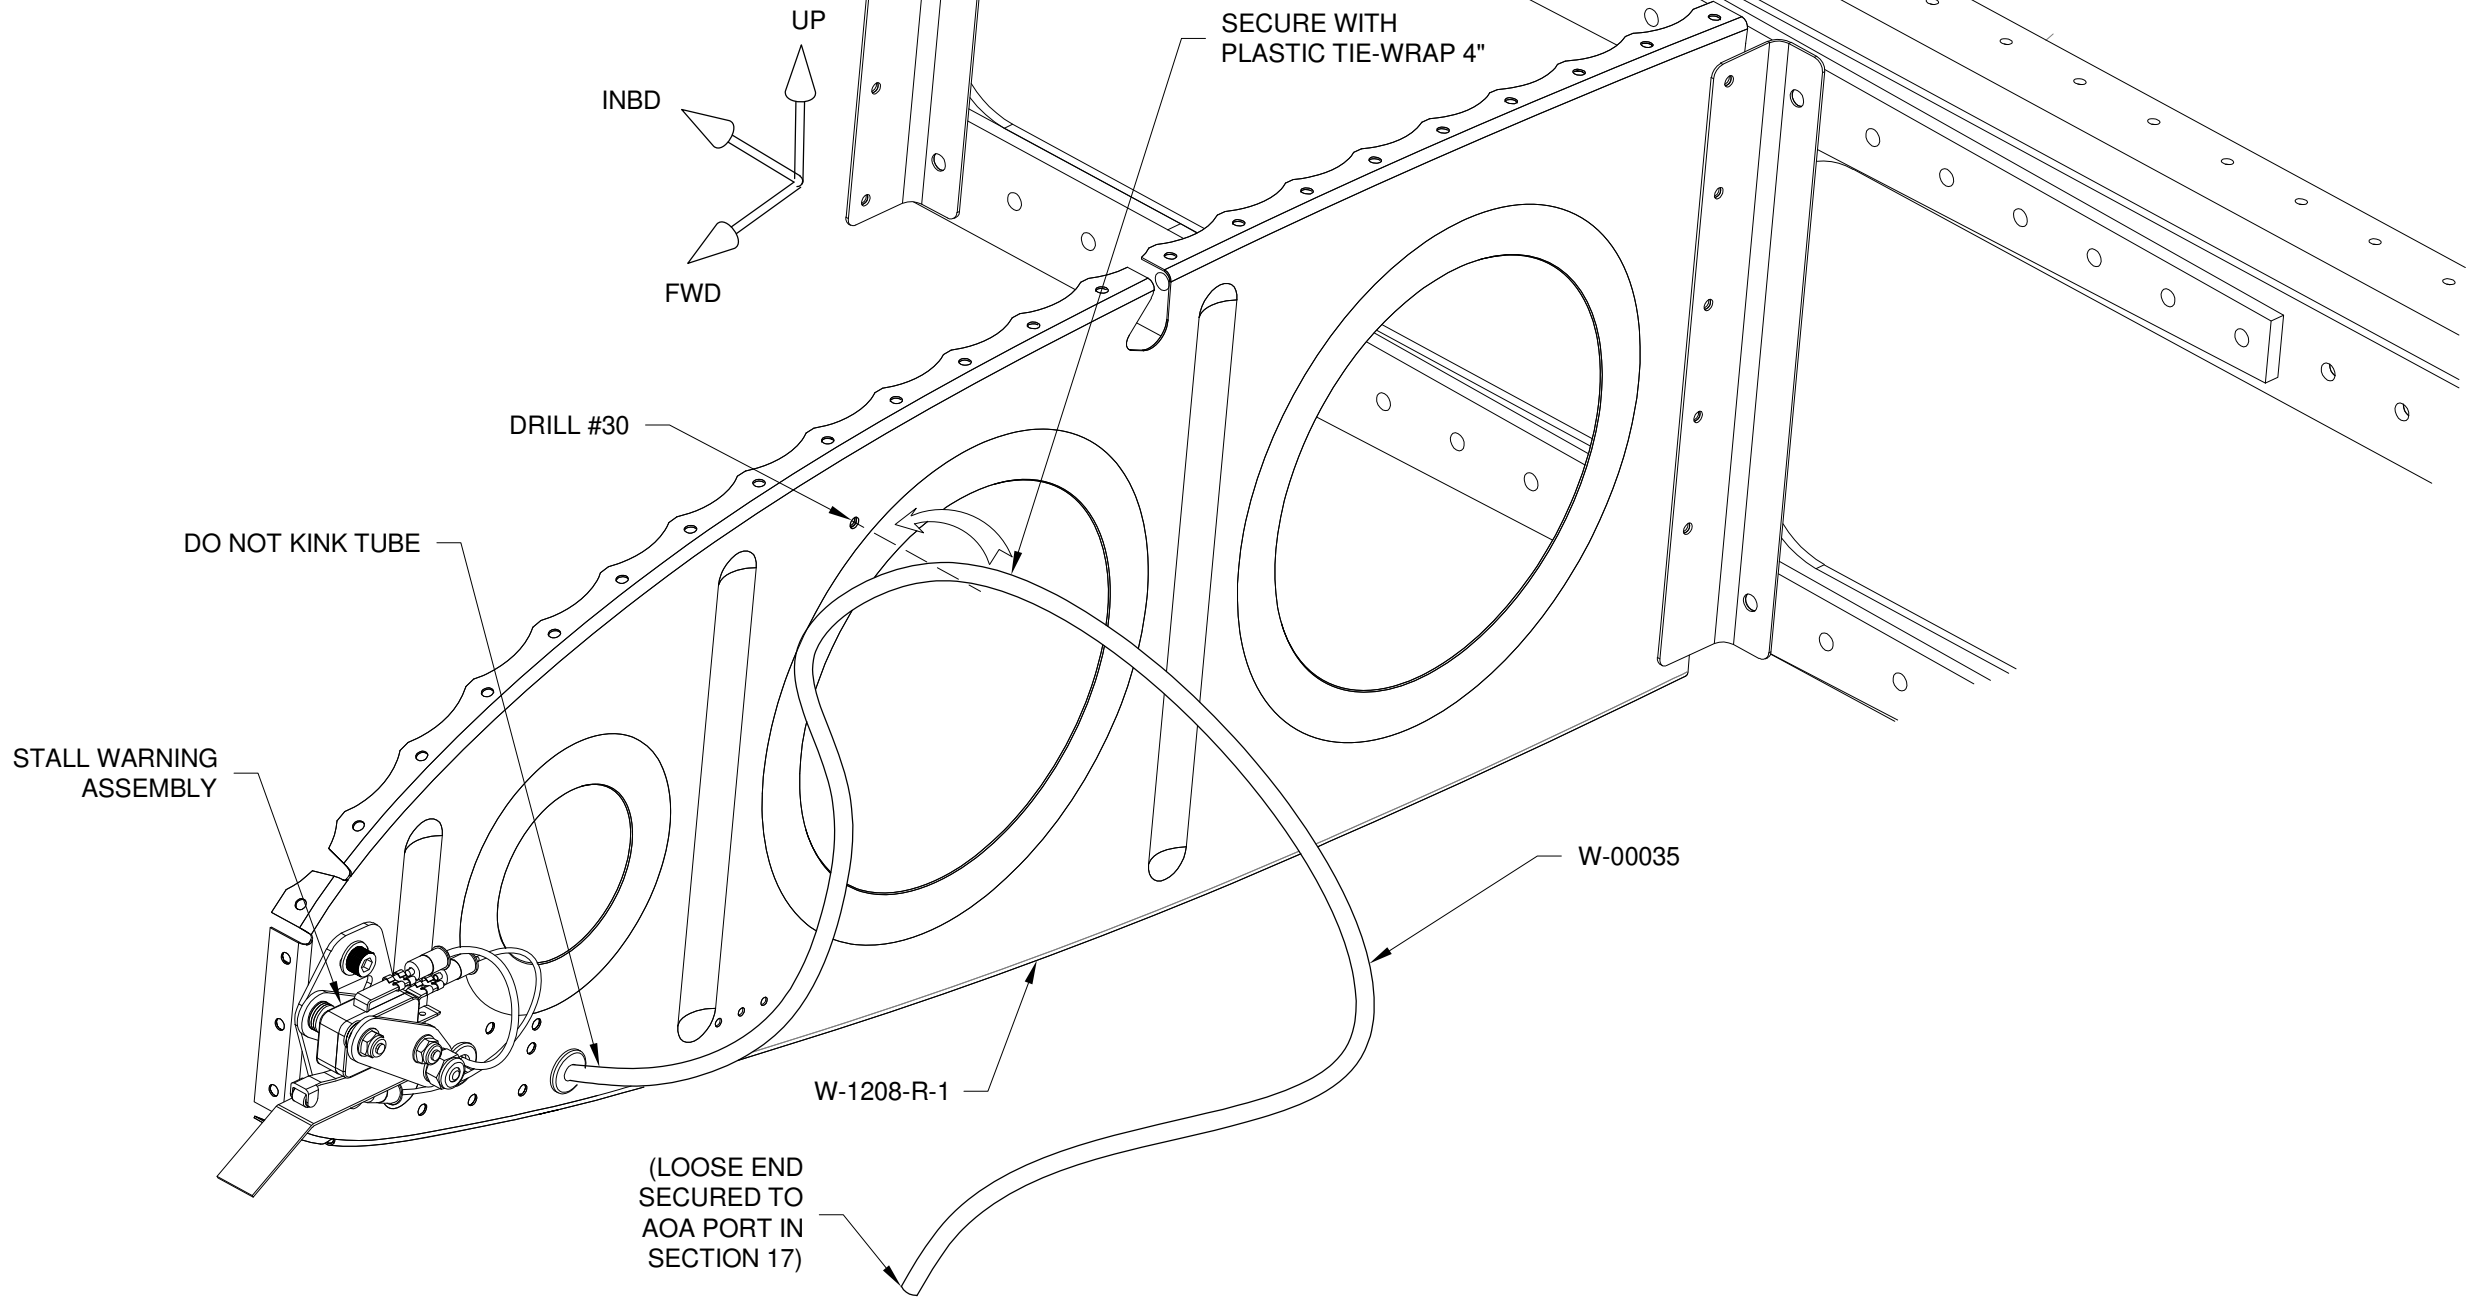

FIGURE 1: SECURING THE WING AOA LINE
Step 1: Drill a #30 hole in the location shown in Figure 1 (just outside of and above the bead around the lightening hole) in the W-1208-R-1 Nose Rib which has the Stall Warning Assembly mounted to it.
Step 2: Secure the W-00035 to the W-1208-R-1 using a tie-wrap through the hole just drilled. See Figure 1.